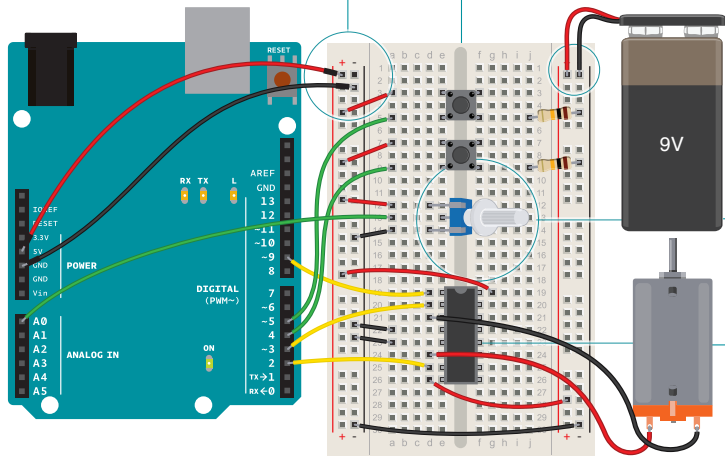

Fig. 2
- 4 Place the H-bridge on your breadboard so it straddles the center (see Fig. 2 for detail of placement). Connect pin 1 of the H-bridge to digital pin 9 on the Arduino. This is the enable pin on the H-bridge. When it receives 5V, it turns the motor on, when it receives 0V, it turns the motor off. You will use this pin to PWM the H-bridge, and adjust the speed of the motor.